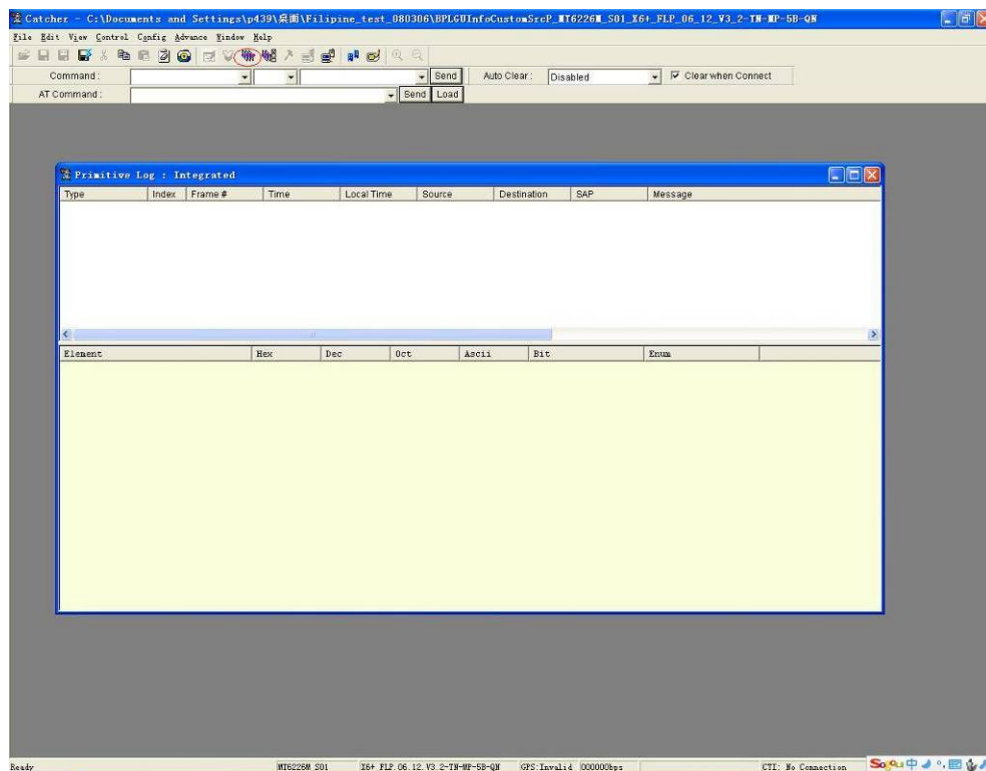
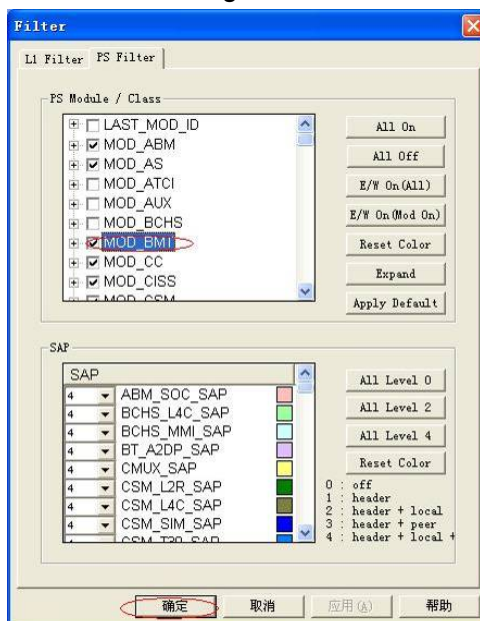

Figure 14
Figure 15
The database in the phone must be exactly the same as the chose database for Catcher, or the figure 14 will occur when the Catcher work.
5.2 Click "Filter" in figure 14, choose some items in figure 15, and then click ok in figure 15. (Please query us if you need to choose the filter settings)